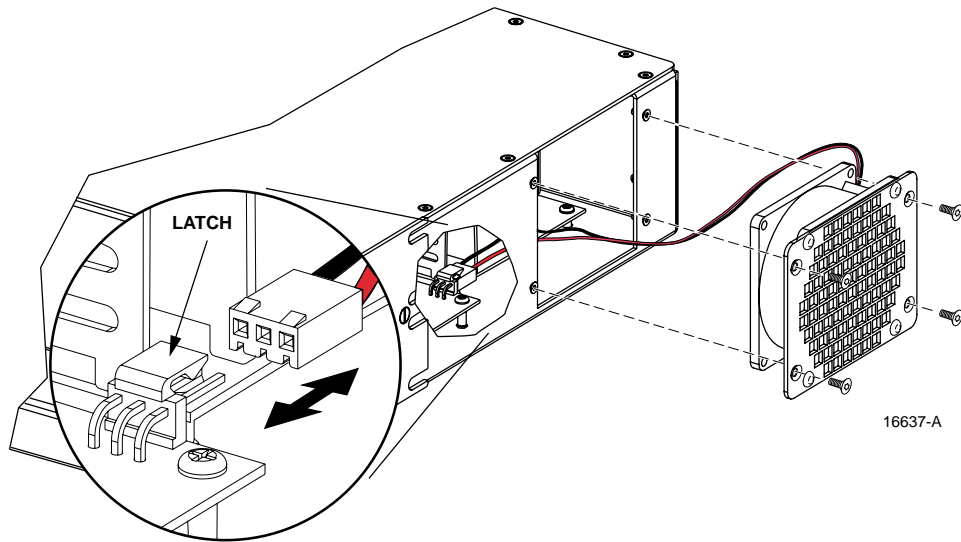

Figure 15. Fan/Grill Assembly Removal
4. Remove the four flat-head screws (requires TORX screwdriver with T15 bit) that secure the fan/grill assembly to the side of the enclosure as shown in Figure 15 and save for reuse.
6. Lift the small latch on the wiring harness connector (see Figure 15) and carefully unplug the connector from the circuit board connector.
12. Secure the fan/grill assembly to the side of the enclosure (see Figure 15) using the four flat-head screws removed in step 4.